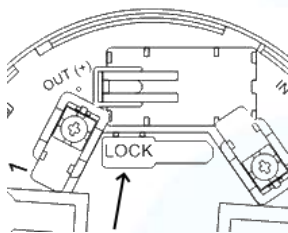

Fig.3
- Remove the key from the base beforehand (fig. 3).